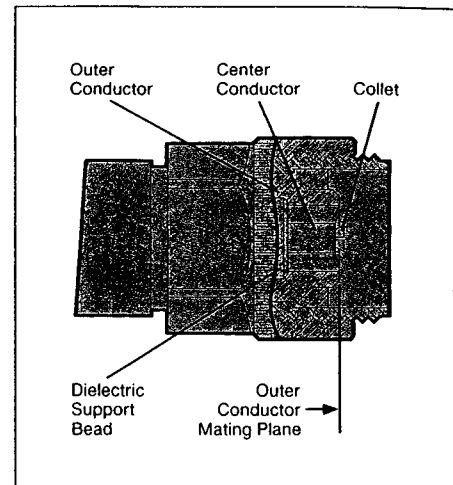

Figure 1. Precision 7 mm connector
**Precision 7 mm Connectors.** Precision 7 mm connectors, among them APC-7® connectors, should be inspected with the center conductor collets in place. See Figure 1.